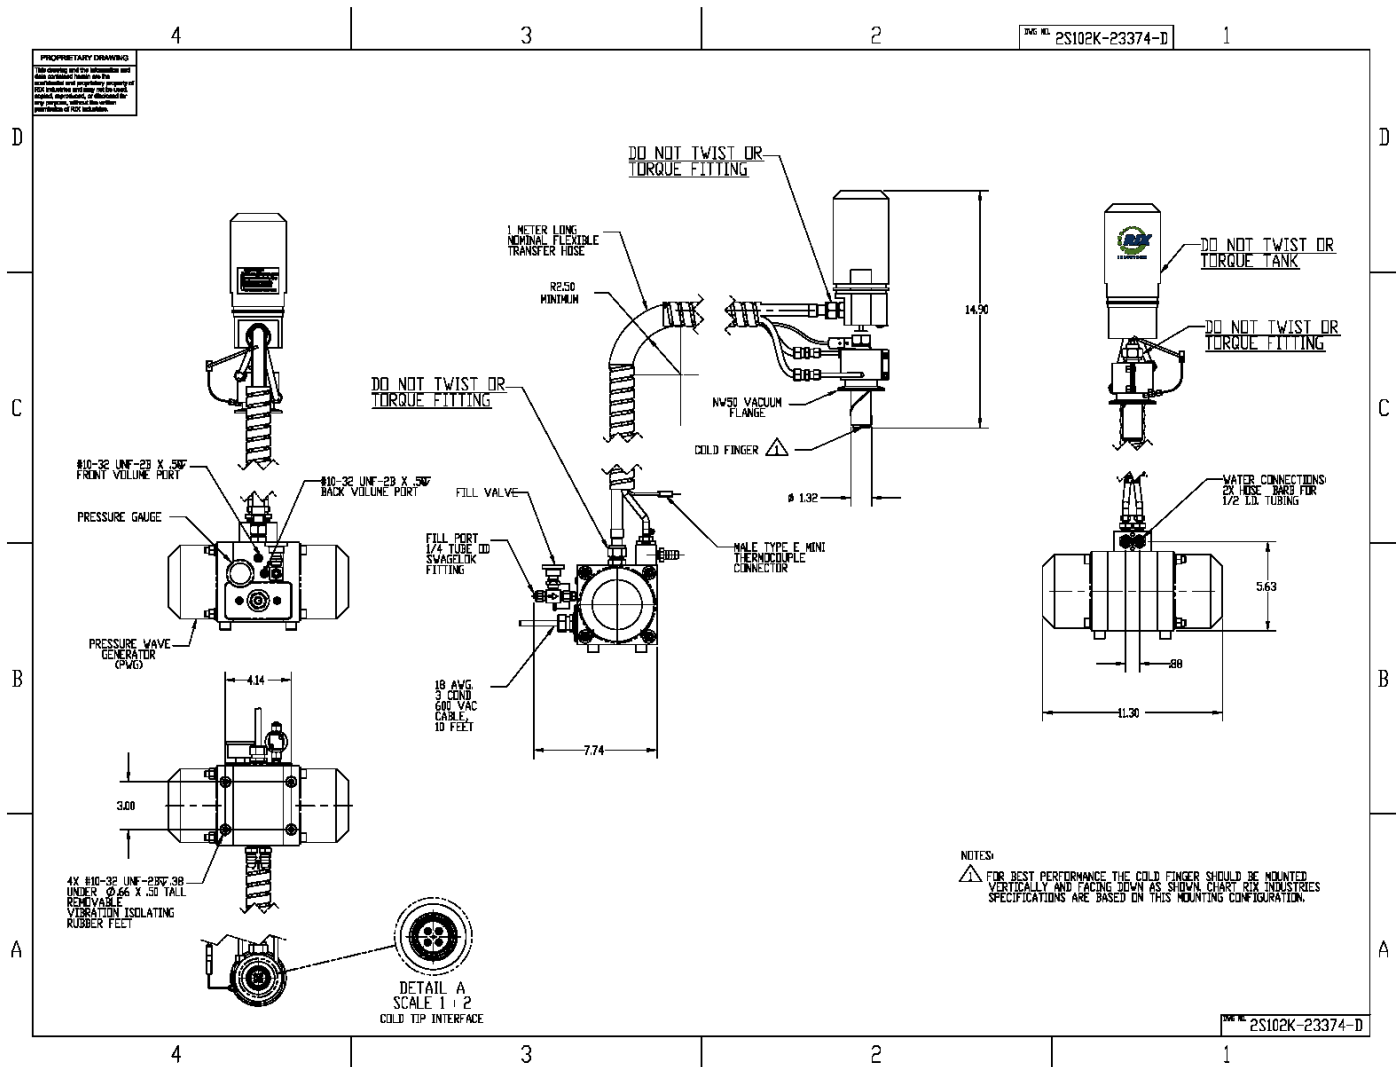

Figure 4: 2s102K Water Cooled FAR Cryocooler
- Pressure Wave Generator: Four #10-32 tapped holes as outlined in Figure 4
See Diagram in Figure 4 below.